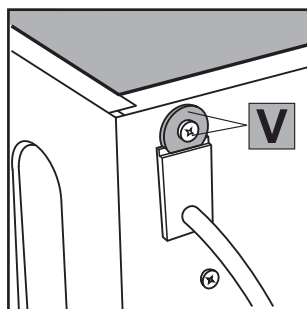

Fig. 15
- Remove the screw and washer **V** [fig. 15], which act as a stop for the cable passageway.